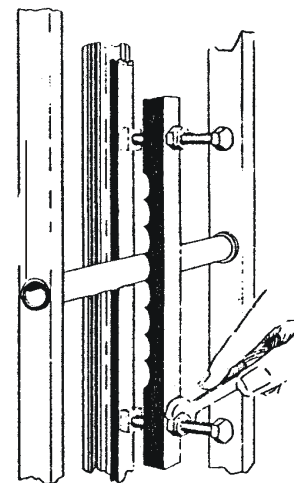

FIGURE 5
m. LADDER RUNG CLAMPS are designed to secure the carrier rail to a ladder face. See figure 5. The spacing for these clamps is 7 feet maximum with one clamp attached at the top of each section. The top clamp should be attached at the second and third bolt positions from the top. Determine the position of the ladder rung clamps and remove the bolt located at each position where a clamp will be attached. Place a nut on each of the ladder rung clamp bolts, place the bolts through the ladder rung clamp bolts, and then place another nut (jam nut) about the center of each bolt. Raise the carrier rail into position and screw the ladder rung clamp bolts into the rail into position and tighten the jam nut to lock the bolts.